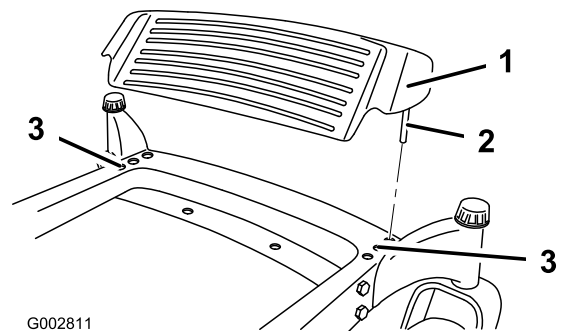

Figure 3
1. Remove the foot plate to access the existing holes in the machine frame (Figure 3).